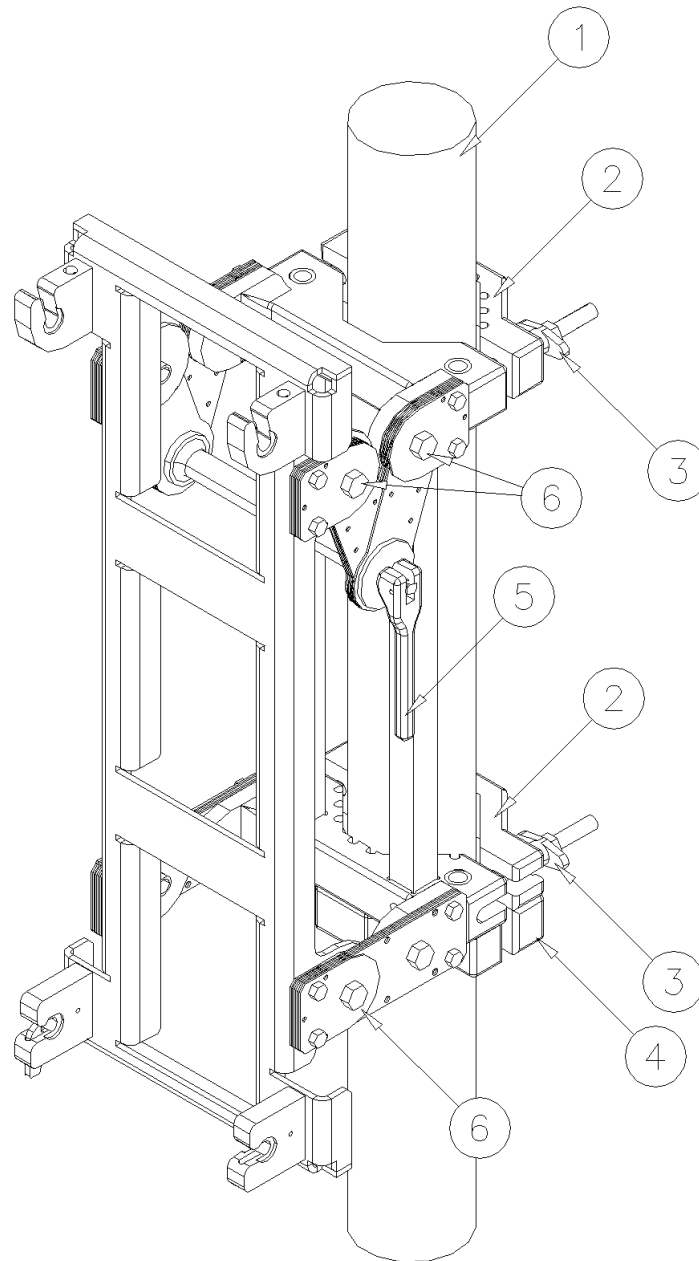

Figure 12: Mounting Assembly.
2.6.1. Mounting Assembly (Figure 12):